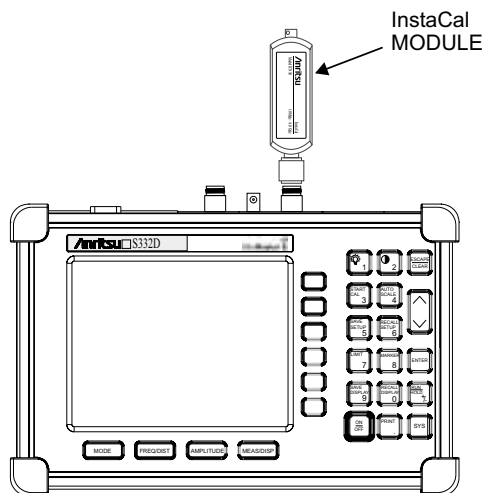

Figure 3-3. InstaCal Module Calibration
- Step 4.** Connect the InstaCal module to the RF Out port (Figure 3-3).
- Step 3.** Connect the InstaCal module to the RF Out port (Figure 3-3). The Site Master automatically sets the frequency from 25 MHz to 4000 MHz.